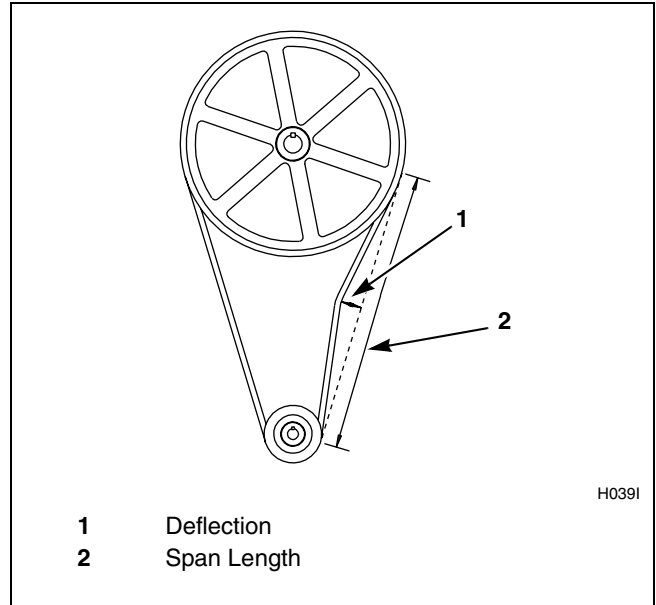

Figure 16
d. **For variable-speed models only**, verify that V-belts are properly tensioned by applying a set force to the belts and measuring the deflection to determine the belt tension. Refer to *Table 3* for the acceptable belt’s tension ranges. Belt tension measurements should be taken as close to the center of the belt span as possible. Refer to *Figure 16*.